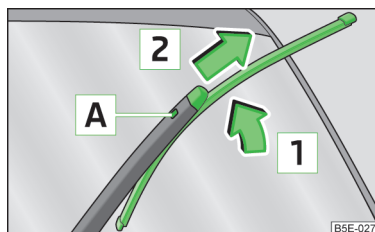

Fig. 214
- Raise the wiper arm away from the window » Fig. 214.